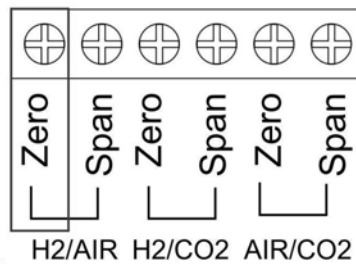

Figure 3-7: H₂/AIR Zero Trimpot
- Use the H₂/air zero trim pot to zero that range by adjusting the pot until the display reads zero. See Figure 3-7